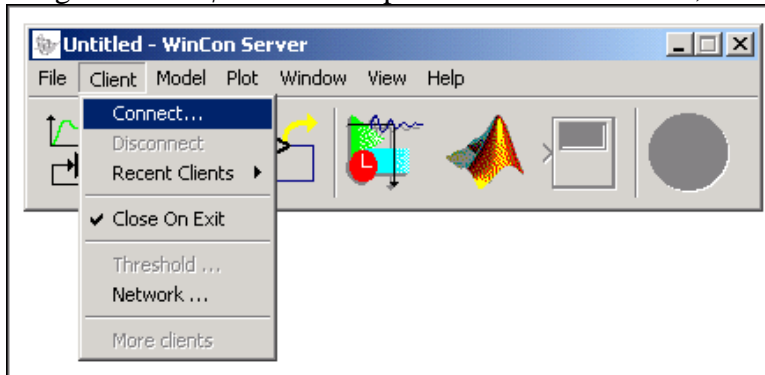

Figure 5 Connecting WinCon Server to WinCon Client
Step 9. From the WinCon Server window, connect to the desired WinCon Client by using the *Client / Connect...* option from the menu bar, as shown in Figure 5, below.